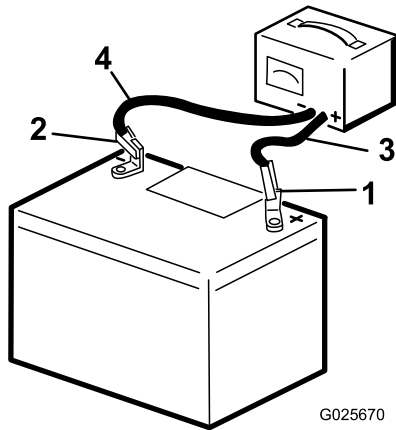

Figure 32
1. Charge the battery for 10 to 15 minutes at 25 to 30 A or 30 minutes at 4 to 6 A (Figure 32).
2. When the battery is fully charged, unplug the charger from the electrical outlet, then disconnect the charger leads from the battery posts (Figure 32).